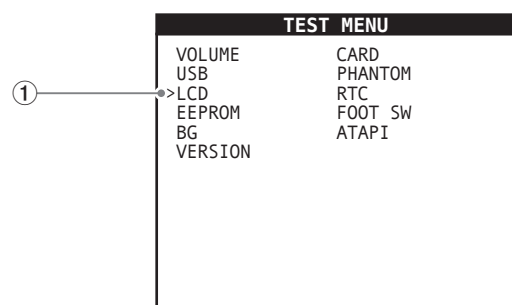

Fig 5-a
- Press the **JOG/PLAY** button to open the "LCD check" screen (Fig. 5-a-②).